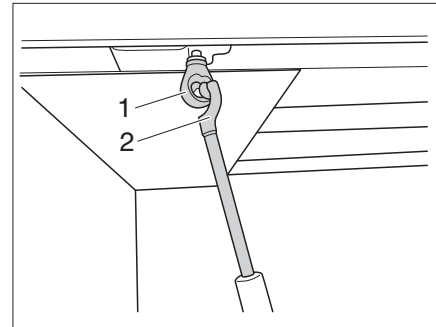

Fig. 148 Height adjustment
- Insert the crank (Fig. 148,2) into the height adjustment lug (Fig. 148,1).